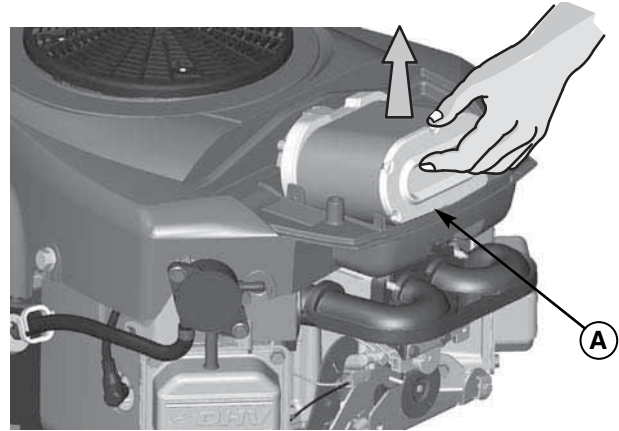

Figure 40. Air Filter Removal
2. Locate the air filter cartridge (A, Figure 40). Pull up on the front edge of the cartridge until it snaps out of place.